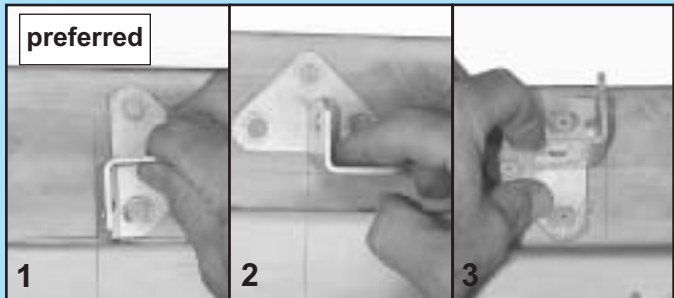

FIG. 2-5 Header bracket in place (3 methods).
NOTE: Although header bracket may be oriented several ways, method 1 is preferred if possible because of added strength over other methods (Fig. 2-5).
- Hold header bracket against wall (Fig. 2-5).
- Fasten header bracket with 3 lag screws (22) (Fig. 2-5).